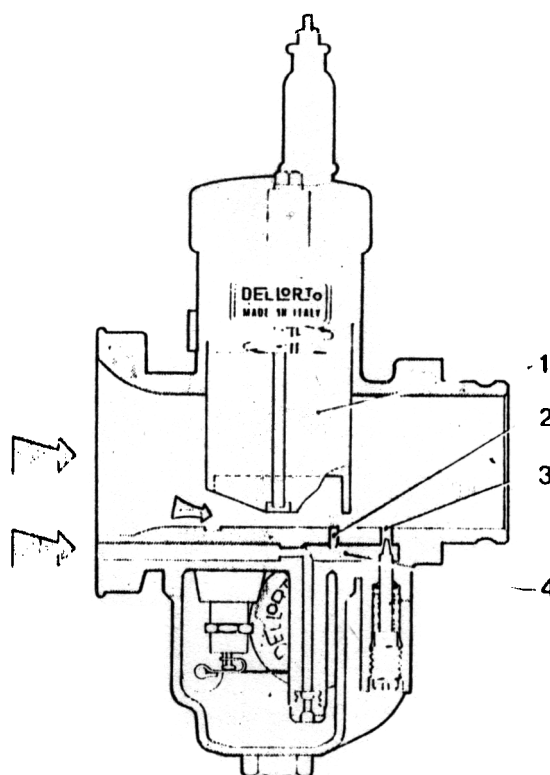

fig. 20
As previously noted, the idle hole(3) shown in figure 20, only delivers sufficient fuel for engine idle operation and the main circuit still does not deliver any fuel because of insufficient vacuum upstream of the throttle. The progression hole (2) is therefore necessary to deliver the fuel required during this transition period. The progression hole draws fuel from the idle circuit (4) and is positioned immediately upstream of the closing edge of the throttle slide (1) for the promptest response to fuel demand when the airflow suddenly increases.